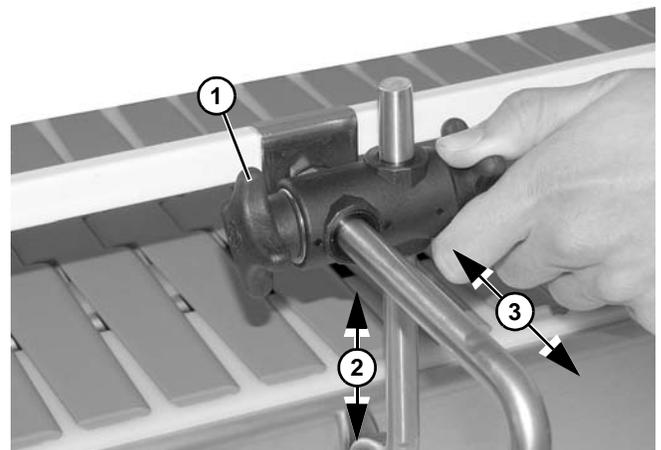

Figure 26
6. Loosen hand clamps (**Figure 26, item 1**) or socket head screws to adjust guiding up/down (**Figure 26, item 2**) or in/out (**Figure 26, item 3**). Tighten.